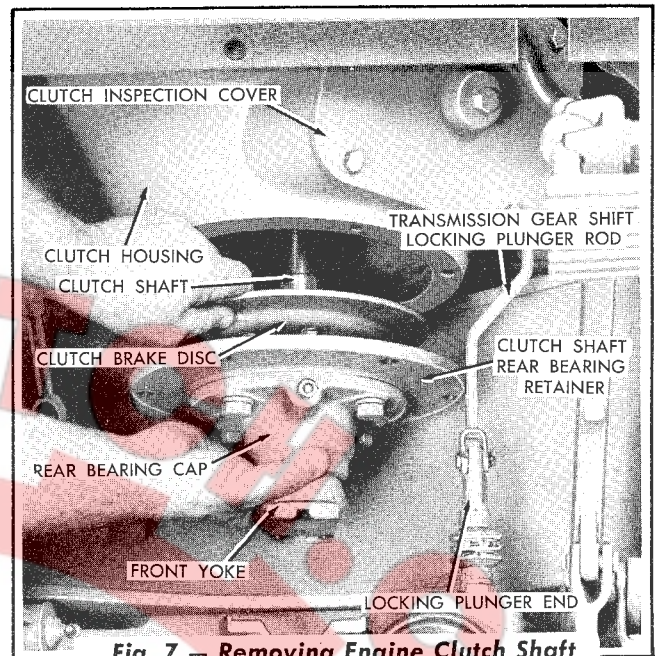

Fig. 7 — Removing Engine Clutch Shaft
clutch shaft rear bearing retainer to the clutch housing. Remove the clutch shaft and clutch shaft rear bearing retainer as an assembly as shown in Fig. 7.
transmission gear shift locking plunger rod from the locking plunger end (Fig. 7) by removing the yoke pin. Remove the gear shift lock lever from the clutch shifting yoke right shaft.
7. Install the gear shift lock lever in position on the outer end of the clutch shifting yoke right shaft and secure the lever to the shaft with a capscrew, lockwasher, and nut. Install the yoke pin to connect the transmission gear shift locking plunger rod to the locking plunger end (Fig. 7). Connect the front yoke of the clutch operating rod to the clutch control lever, located on the outer end of the clutch shifting yoke left shaft.